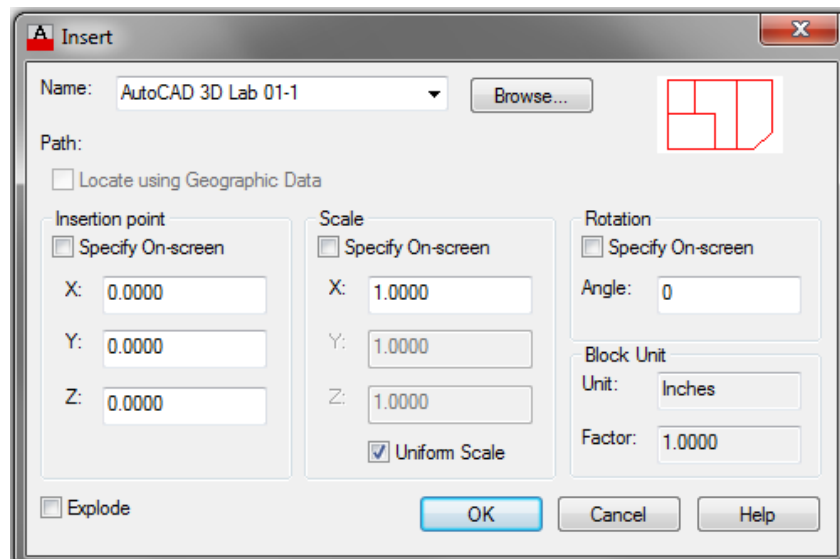

Figure Step 8
Step 8 Click the Insert pull-down and select Block. This will open the Insert dialogue box. (Figure Step 8)